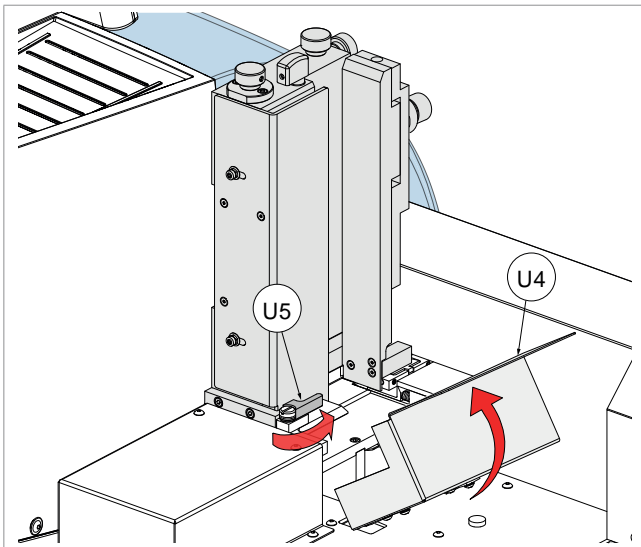

Fig. 37
- 4) Close the lever (U5) and shield (U4) (Fig. 37).